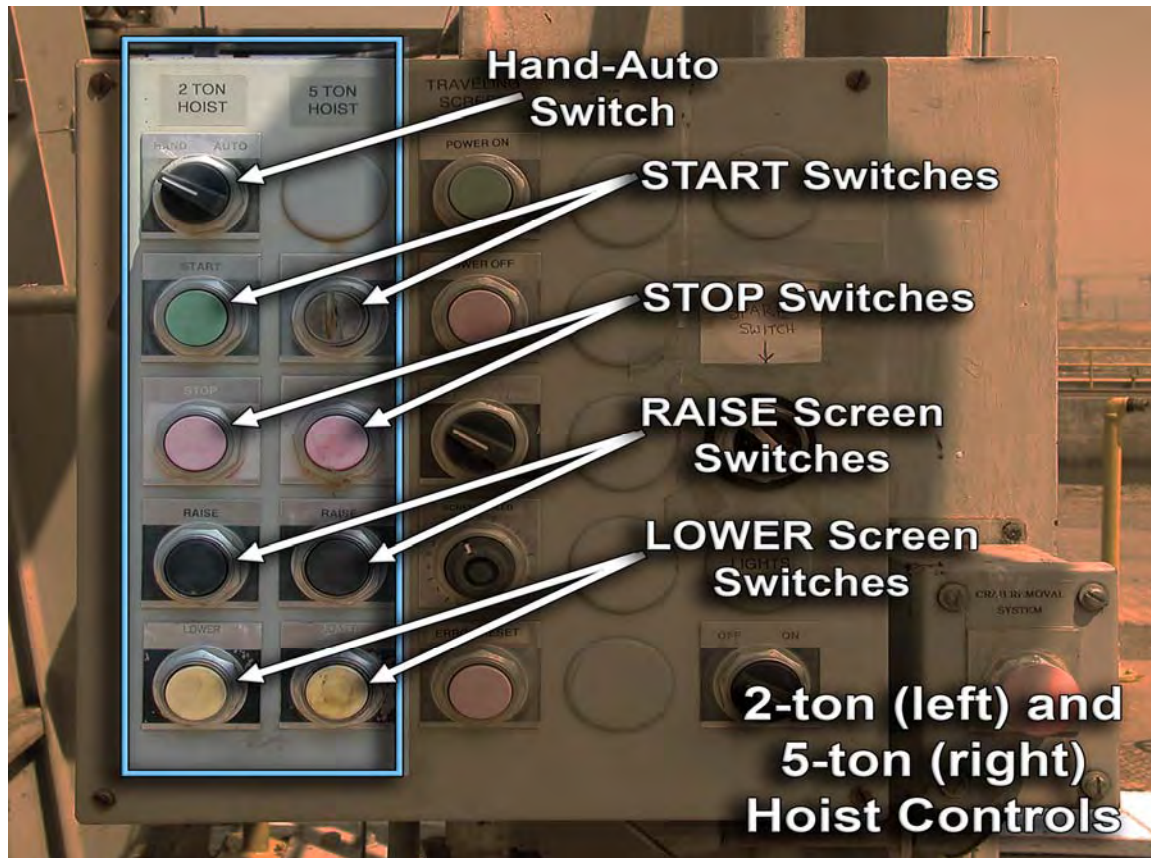

FIGURE 16.—Traveling Screen Control Panel P2 highlighting the 2-ton and 5-ton Hoist Controls.
Lower the Traveling Screen using the 5-ton Hoist controlled at Traveling Screen Control Panel P2. These controls are in the right-hand column highlighted in Figure 16. Start the 5-ton Hoist by pressing the LOWER button. The Traveling Screen will automatically stop when it reaches the bottom of the Secondary Channel. The screen must be within 18 inches of the bottom of the secondary channel to allow installation of Spray Boom Hoses. There are markings on the screen nylon skid pads, near the Traveling Screen control panel, showing the completely down and 1 foot off the bottom positions.
Guide Plate A1, located on the east-facing side of the Traveling Screen (Figure 2a and 2c) is controlled using the left-hand column control buttons for the 2-ton Hoist on the P2 Panel (Figure 16). Turn the Hand-Auto Switch to the HAND position and press the green START Switch button. Press the LOWER Switch button to lower the Guide Plate. When the bottom of the Guide Plate is within 6-12 inches above the water surface in the secondary channel, press the STOP Switch button. Rotate the Hand-Auto Switch to the AUTO position to allow the Guide Plate to raise and lower automatically with changing water levels.
1. Go to the Traveling Screen Control Panel P2 and find the 2-ton Hoist Controls (Figure 16) on the far left column.
Press the red STOP button in the 2-ton Hoist Column on Traveling Screen Control Panel P2 (Figure 16) to stop any up or down movement of the guide plate that may occur while shutting down and lifting the screen.
Go to Traveling Screen Control Panel P2 (Figure 16). Under the 2-ton Hoist Column turn the Hand-Auto Switch to HAND and restart the hoist using the green start button. Press the RAISE button to lift the guide plate. Observe the top of the guide plate as it rises so that it does not trip the Automatic Shut-Down Switch, located near the winch spools (Figures 2a and 2c), at the top of the sloped Traveling Screen framework. The guide plate should only be raised to within 3-5 feet of the Automatic Shut-Down Switch.
Press the RAISE button under the 5-ton Hoist Column on the Traveling Screen Control Panel P2 (Figure 16) to raise the Traveling Screen. If the hoist does not rise, use the RESET switch key to restart the 5-ton Hoist. Observe the top of the screen as it rises so that it does not trip the Automatic Shut-Down Switch, located near the winch spools, at the top of the sloped Traveling Screen framework. The Traveling Screen should come no closer than 3–5 feet from the Automatic Shut-Down Switch.
Raise and lower the Traveling Screen using the 5-ton Hoist (Figure 16) to align the holes in the Traveling Screen frame with the retaining pinholes. Install the retaining pins on both sides of the screen framework to secure the Traveling Screen. If the Traveling Screen is not going to be used for several days or longer, install the stainless steel bolts through the retaining pin bracket to more permanently lock the Traveling Screen in the UP position.